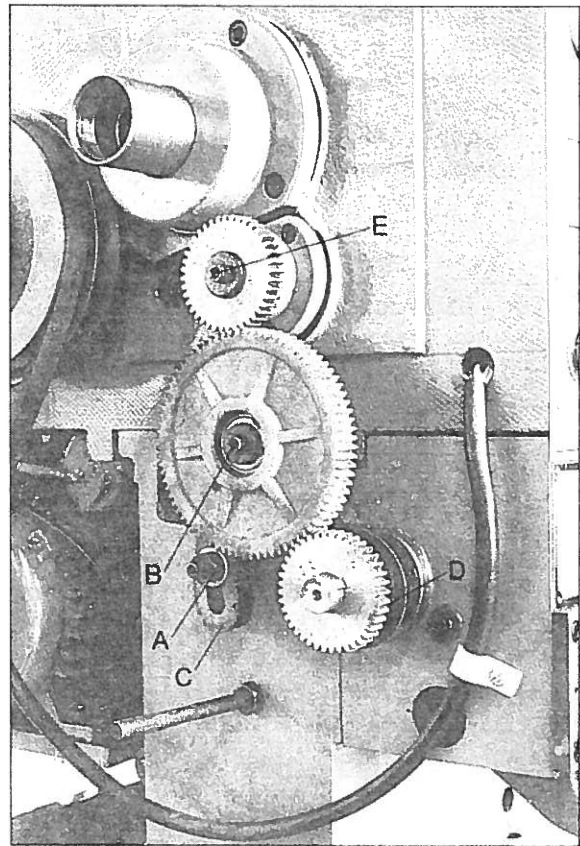

Fig. 15
3. Loosen nut(A, Fig. 15) and hex socket cap screw(B, Fig. 15).
4. Swing the quadrant(C, Fig. 15) toward the front of the lathe.
5. Remove hex socket cap screw (E, Fig. 15) or set screw(D, Fig. 15), depending on which gear is to be changed.
7. Loosen nut(A, Fig. 15) Move the quadrant back so teeth mesh on gears, and tighten nut(A, Fig. 15) and the hex socket cap screw(B, Fig. 15) to hold the quadrant in place. **Make sure there is a backlash of .002 – .003 between gears. Setting the gears too tight will cause excessive noise and wear.**